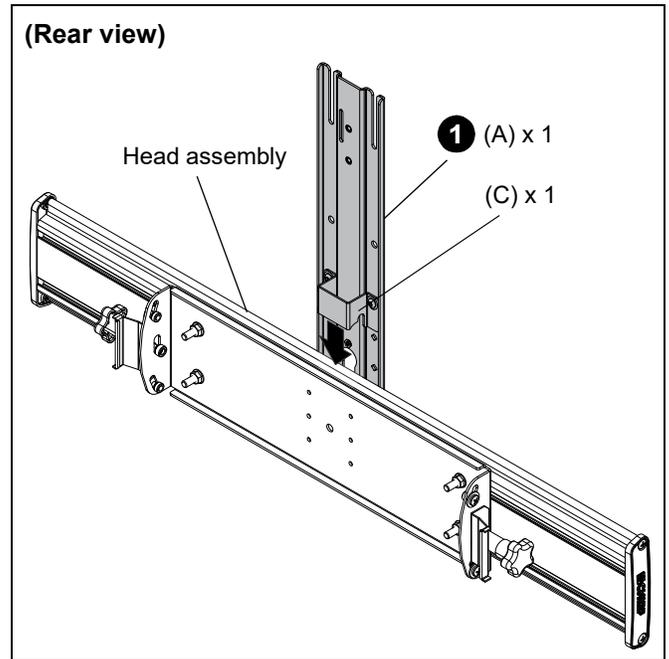

Figure 15
1. Slide upright assembly (A) onto front of cart/ceiling/freestanding mount head assembly until center rail bracket (C) rests on top of head assembly. (See Figure 15)